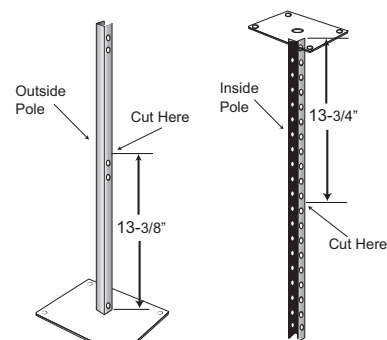

Figure 1
2. Cut the Outside Pole to 13-3/8 inches from the end the mounting plate will be attached. Cut the Inside Pole to 13-3/4 inches from the end the mounting plate will be attached. Refer to figure 1.